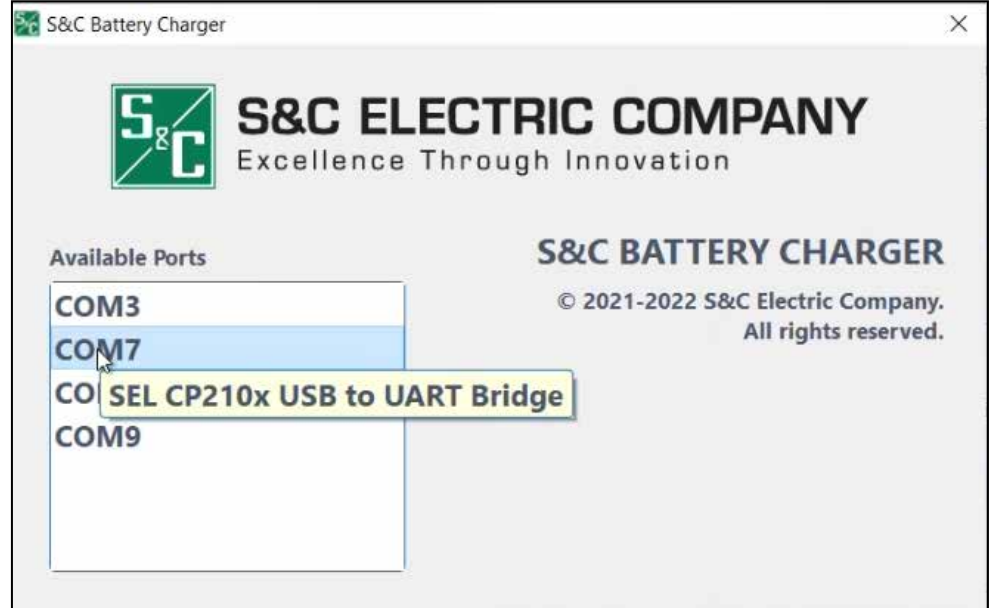

Figure 11. The *S&C Battery Charger Launch* screen showing the **Available Ports** menu.
STEP 2. Launch the application by double-clicking on it. The launch window will open showing the **Available Ports** menu. If multiple COM ports are available on the computer, hover over each COM port entry in the **Available Ports** menu. Identify the cable being used to connect between the Vista battery charger and the PC. An example is shown in Figure 11. Click on the appropriate COM port selection in the menu.